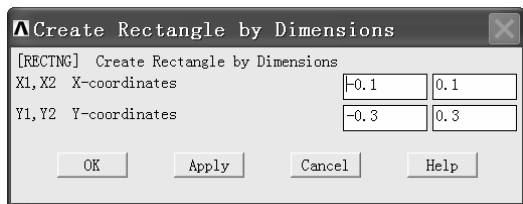

图 2-74 “Create Rectangle by Dimensions” 窗口
(1) 依次选择 Main Menu>Preprocessor>Modeling>Create>Areas>Rectangle>By Dimensions, 弹出“Create Rectangle by Dimensions”窗口（见图 2-74）。在“X1, X2 X-coordinates”